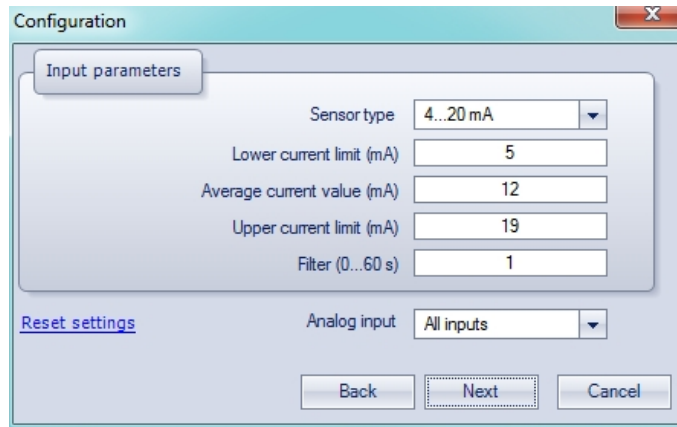

Fig. F.3
4. Set the three curve points for calibration, the filter time constant and select the channel (Fig. F.3). Increasing the filter time constant increases the time of calibration but provides a more precise calibration coefficients. Each channel is calibrated individually. If 'All channels' is selected, all four channels will be calibrated, so it is necessary to select the appropriate curve points for all channels at once.